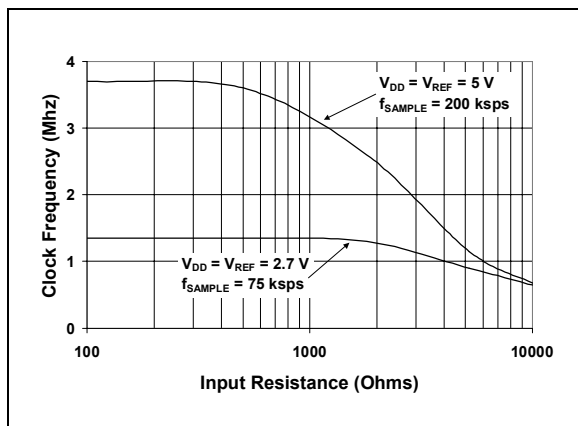

FIGURE 4-2: Maximum Clock Frequency vs. Input resistance ( $R_S$ ) to maintain less than a 0.1 LSB deviation in INL from nominal conditions.
This diagram illustrates that the source impedance (RS) adds to the internal sampling switch (RSS) impedance, directly affecting the time that is required to charge the capacitor (CSAMPLE). Consequently, larger source impedances increase the offset, gain and integral linearity errors of the conversion (see Figure 4-2).
If the signal source for the A/D converter is not a low impedance source, it will have to be buffered or inaccurate conversion results may occur (see Figure 4-2). It is also recommended that a filter be used to eliminate any signals that may be aliased back in to the conversion results, as is illustrated in Figure 6-3, where an op amp is used to drive, filter and gain the analog input of the MCP3004/3008. This amplifier provides a low impedance source for the converter input, plus a low pass filter, which eliminates unwanted high frequency noise.